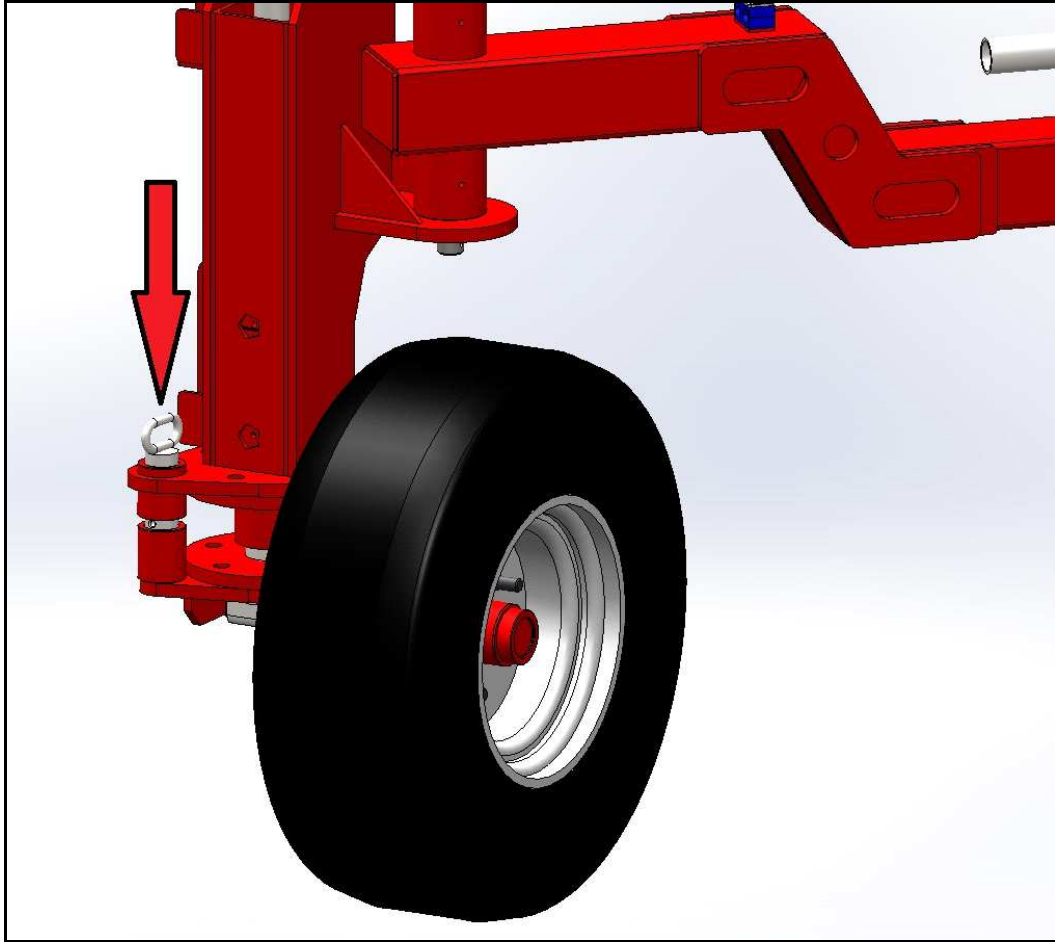

Figure 16
- Lock the rotation of the rear wheels around the vertical axis with the mechanical lock provided (see Figure 16).